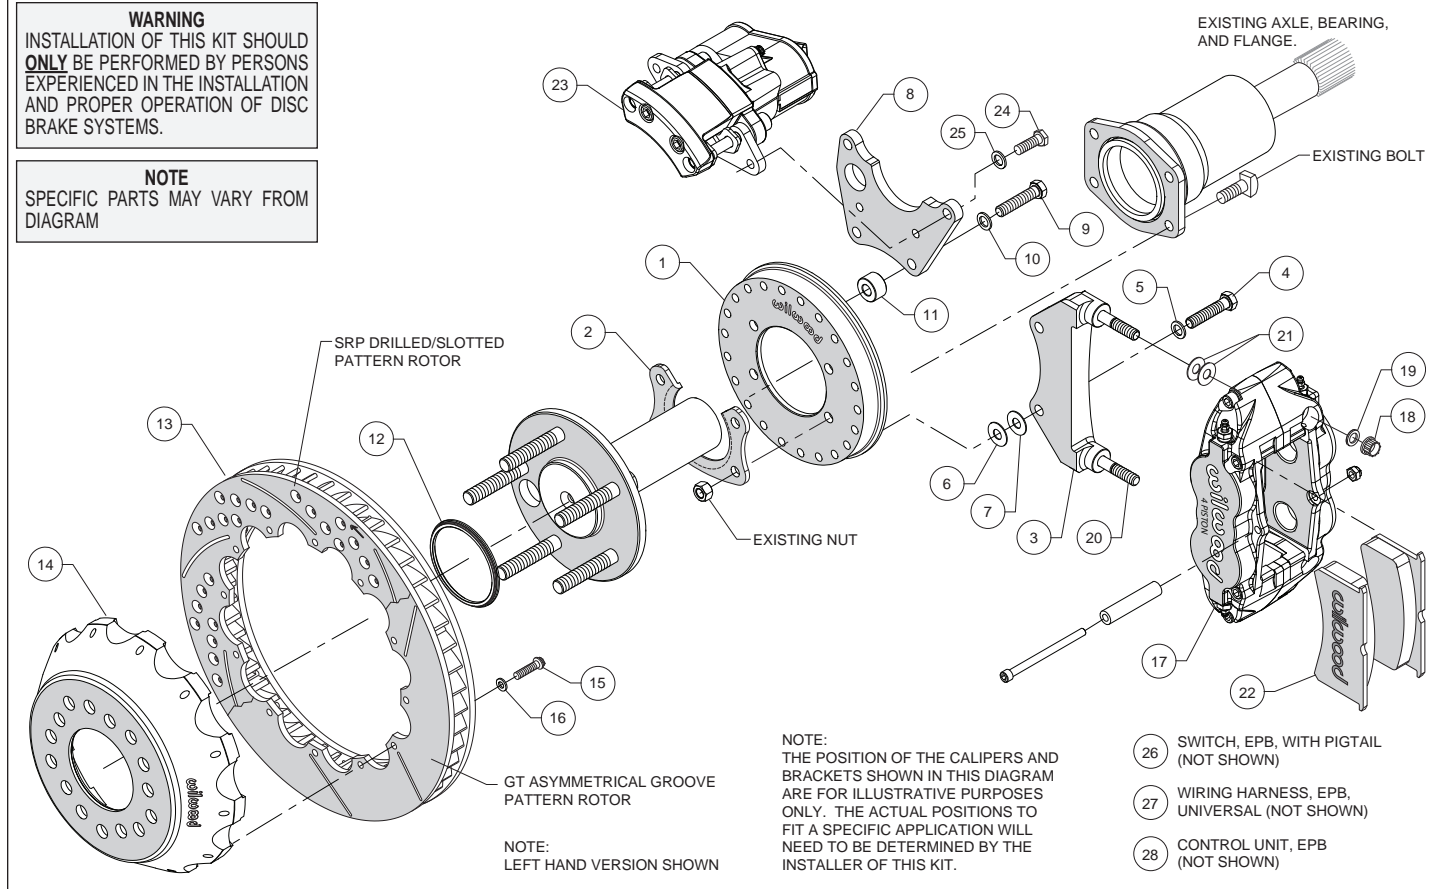
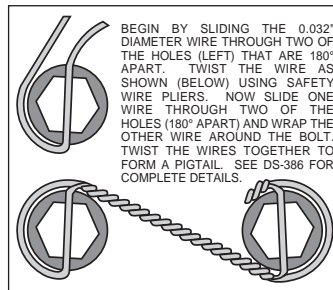

Figure 1. Typical Installation Configuration
Figure 5. Safety Wire Diagram
(numbers in parenthesis refer to the parts list, and Figure 1 on the preceding pages):
- Orient the backing plate (1) as shown in Figure 1 and Photo 1, and slide it onto the axle housing flange. Ensure the backing plate fits flush against the axle housing flange. Reinstall the axle into the axle housing.
- Install the bearing retainer (2) with the opening pointing upward and the lip facing inward (toward the bearing), as shown in Figures 1 and 4, and Photo 2. Secure retainer and backing plate to the axle housing flange using the Original Equipment Manufacturer (OEM) bolts and nuts, Figure 1 and Photo 3. Apply red *Loctite*® 271 to the OEM bolt threads and torque to OEM specifications.
- Start by determining the best location for the service caliper (17). This caliper is usually mounted in the 3:00 or 9:00 o'clock position, but may be rotated up or down approximately 45 degrees and still allow for proper bleeding, Photo 4. Orient the service caliper bracket (3) as shown in Figure 1 and Photo 5, and install to the backing plate (1) in the desired location using bolts (4) and washers (5). Temporarily tighten bolts. Next, mount the service caliper onto the bracket. Lubricate the caliper mounting studs (20) with lightweight oil. Mount the service caliper using lock nuts (18) and washers (19), Figure 1. Temporarily tighten the lock nuts. Check that the caliper (including inlet fitting and hose) has sufficient clearance to all surrounding components through the full suspension travel. Relocate the caliper/bracket on the backing plate as needed to ensure proper clearance is achieved.
- Determine the best location for the EPB caliper (23). **NOTE:** *The EPB caliper motor extends farther inboard than the service caliper and therefore needs additional consideration when determining a mounting location with sufficient clearance.* In the example application shown in Photo 6, the EPB caliper has sufficient inboard clearance to the leaf spring. However, if the EPB caliper were mounted closer to the 12:00 o'clock position, the inner body of the vehicle would hit the caliper during full compression of the suspension.
•Orient the EPB caliper bracket (8) as shown in Figure 1 and Photo 7, and install to the backing plate (1) in the desired location using bolts (9), washers (10), and spacers (11). Temporarily tighten bolts. **NOTE:** The EPB bracket is reversible. In one direction the bracket will position the EPB caliper closer to the service caliper, and vice versa if reversing the bracket. Next, mount the EPB caliper (23) to the bracket using bolts (24) and washers (25). Temporarily tighten bolts. **NOTE:** EPB calipers are Left and Right handed, however they can be used on either side of the vehicle to best suit your specific application. Check that the EPB caliper (including wiring harness connector) has sufficient clearance to all surrounding components through the full suspension travel. Relocate the EPB caliper/bracket on the backing plate as needed to ensure proper clearance is achieved.
•Once the caliper positions have been determined, remove both the service (17) and EPB (23) calipers, leaving both brackets in place on the backing plate. For the EPB bracket, remove the bolts one at a time, apply red *Loctite*® 271 to the threads, and torque to 35 ft-lb. The service caliper bracket will be final installed after shimming is determined.
•Orient the rotor (13) and the hat (14) as shown in Figure 1 and Photo 8. Attach rotor to hat using bolts (15) and washers (16). Using an alternating sequence, apply red *Loctite*® 271 to the threads, and torque to 155 in-lbs. For an added measure of security, the bolts may be safety wired using standard 0.032 inch diameter stainless steel safety wire as shown in Figure 5. Please refer to Wilwood's data sheet DS-386 (available at www.wilwood.com/Pdf/DataSheets/ds386.pdf) for complete safety wire installation instructions.
•Initially place two .035" thick shims (21) on each stud of the service caliper bracket (3), as shown in Figure 1 and Photo 10. Mount the caliper onto the bracket using lock nuts (18) and washers (19), Figure 1. Temporarily tighten the lock nuts and view the rotor through the top opening of the caliper. The rotor should be centered in the caliper, Photo 11. If not, adjust by adding or subtracting shims (6 and/or 7)) between the service caliper bracket (3) and the backing plate (1). Always use the same amount of shims on each of the two mounting bolts. Once the caliper alignment is correct, remove the bracket mounting bolts (4) one at a time, apply red *Loctite*® 271 to the threads, and torque bolts to 35 ft-lb.
- Mount the EPB caliper (23) onto the caliper mounting bracket (8) using bolts (24) and washers (25), Figure 1. Apply red *Loctite*® 271 to bolt threads, and torque to 30 ft-lb.
• **NOTE:** The service caliper (17) in this brake kit utilizes a 1/8-27 NPT pipe thread inlet. OEM rubber brake hoses generally cannot be adapted to Wilwood calipers. The preferred method is to use steel adapter fittings at the caliper, either straight, 45 or 90 degree and enough steel braided line to allow for full suspension travel. **Carefully route hoses to prevent contact with moving suspension, brake or wheel components.** **NOTE:** Wilwood hose kits are designed for use in many different vehicle applications and it is the installer's responsibility to properly route and ensure adequate clearance and retention for brake hose components. Wilwood offers universal brake flex line hose kits, domestic (3/8-24 IF) chassis fittings, order: